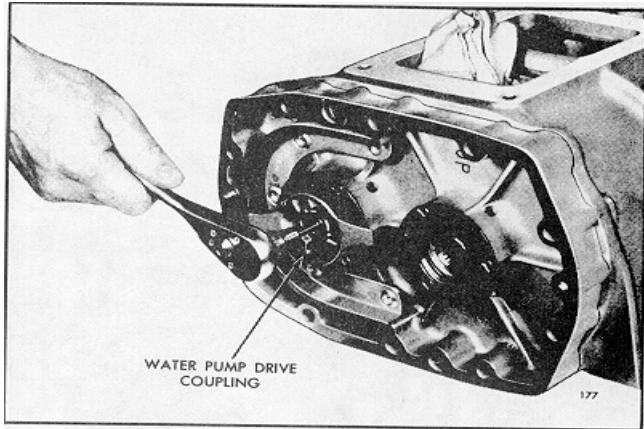

Fig. 5 - Removing Water Pump Drive Coupling Bolt from Blower Rotor Shaft
1. Remove the ten bolts and lock washers securing the end plate covers (28) and (29) to the blower front and rear end plates. Tap the ends of the end plate covers with a plastic hammer to loosen the covers from the gaskets and dowel pins in the end plates. Then, remove the covers and gaskets from the end plates.
2. Place a clean folded shop towel between the rotors and a towel between the rotor and the housing to prevent the rotors from turning. Then, remove the bolt securing the water pump drive coupling to the blower rotor shaft as shown in Fig. 5.